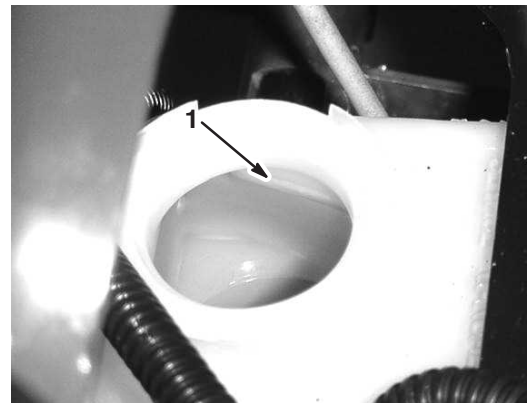

Figure 8
2. The fluid level should be up to the Full line on the reservoir (Fig. 8).